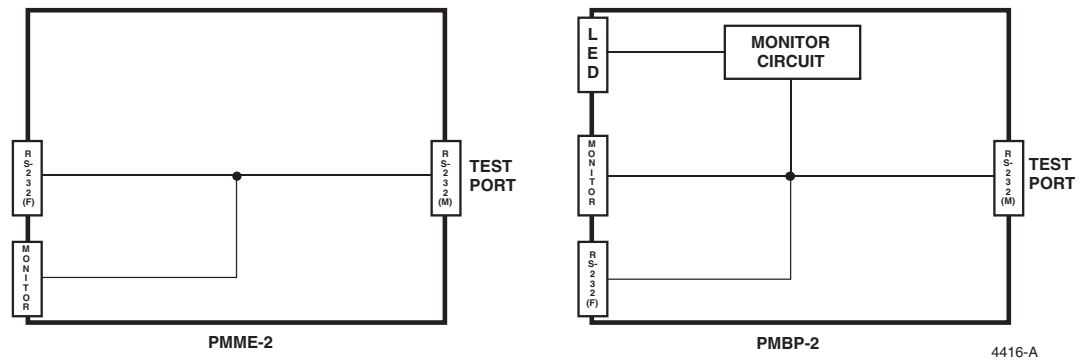

Figure 2-9. PatchMate Test Modules (PIMMLA-2 and PMME-2)
Test Module PIMMLA-2 provides the use with EIA-232/V.24 interface capabilities and status monitoring for eight (8) leads and alarm conditions. A simplified block diagram illustrating the test module connections is shown in Figure 2-9. A male EIA-232/V.24 connector is located on the rear of the test module for terminating appropriate test equipment. A female EIA-232/V.24 connector and a patch jack are located on the module front panel. All three connectors are hardwired in parallel.
Test Module PMME-2 provides the use with the same EIA-232/V.24 interface capabilities as Test Module PIMMLA-2, except it does not contain status and alarm monitoring. A simplified block diagram illustrating the test module connections is shown in Figure 2-9.